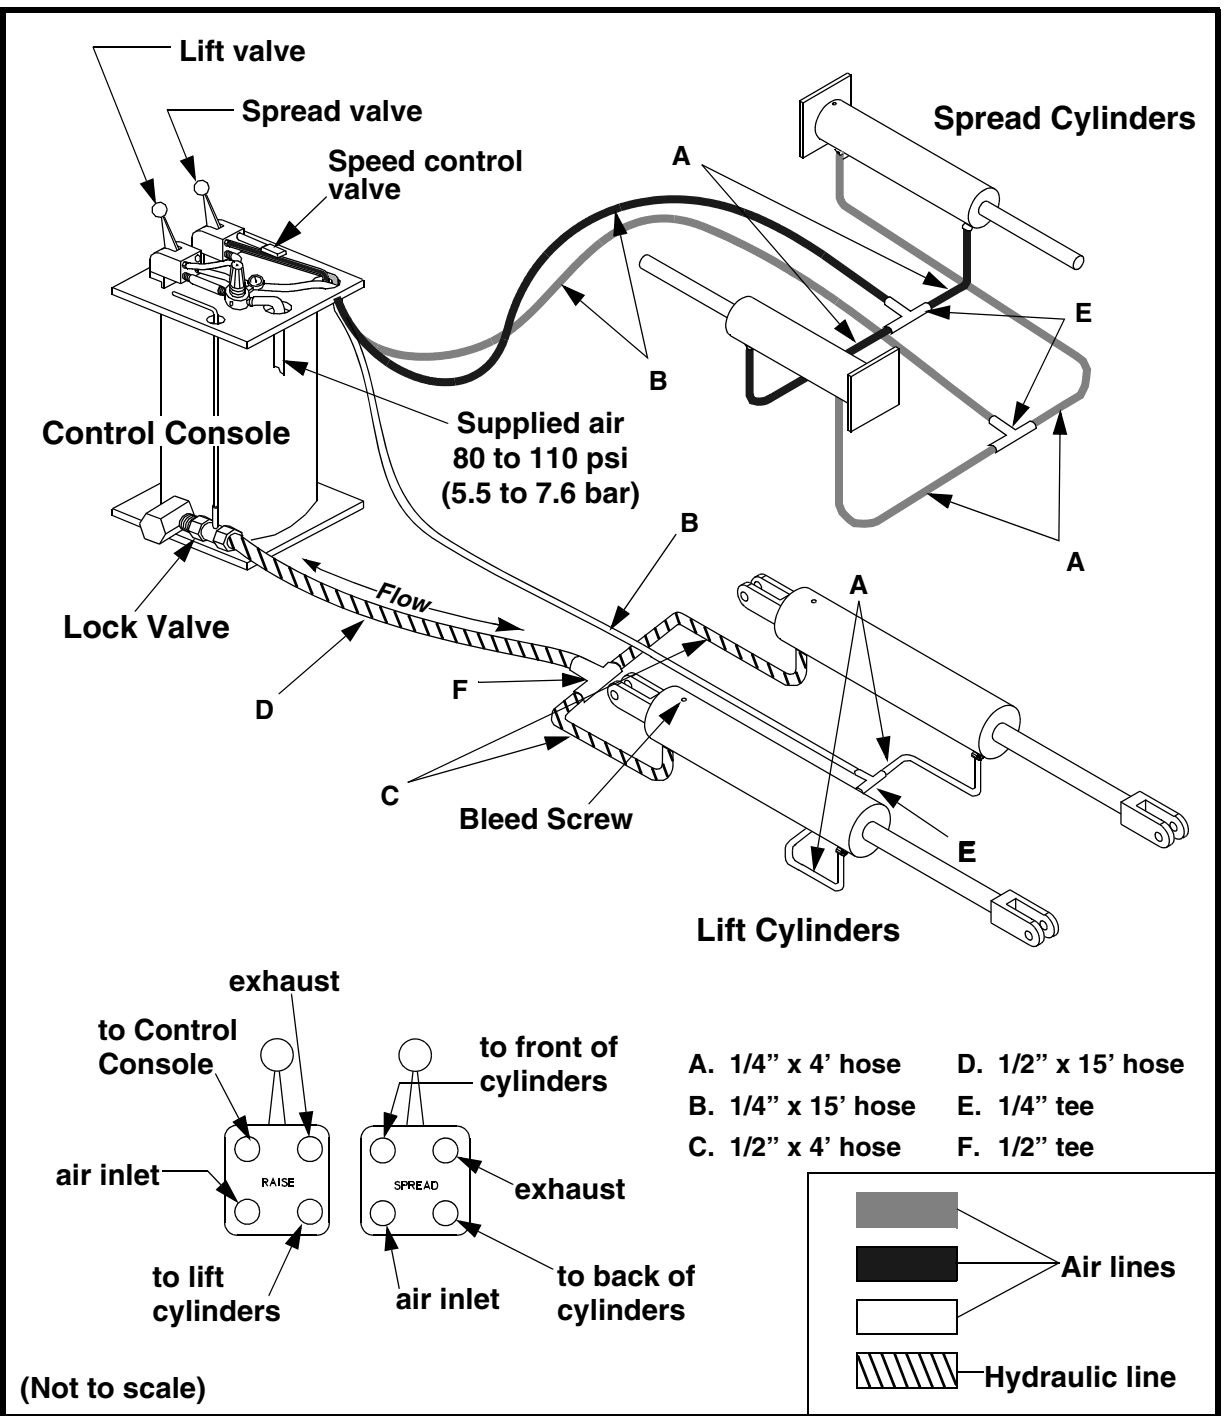

Figure 4. Hose Connections for Models DBL-18 and DBLG-18 GATX
- Connect hoses to DBL-18 and DBLG-18 GATX spread cylinders, lift cylinders, and control console as shown in Figure 4. Route hoses *under* tracks. Make sure hoses are not pinched or kinked.
1. See Figure 4. Fill console tank with automatic transmission fluid through the 1/2-in. filler plug in top of tank. Replace plug.
1. See Figure 4. With all fittings and hoses in place, open lock valve and move lift valve to the UP position. (Unit will rise.)
1. See Figure 4. To raise unit, do the following:
2. See Figure 4. To lower unit, do the following: